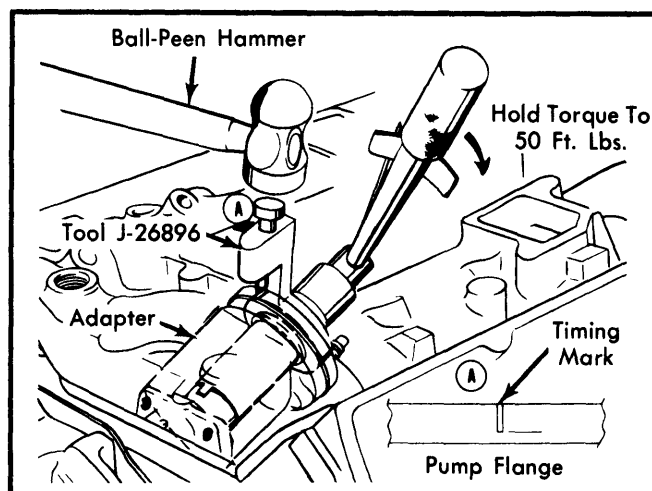

Fig. 12 Holding Torque On Adapter While Marking Timing Mark
8) While holding torque, mark injection pump adapter. See Fig. 12.